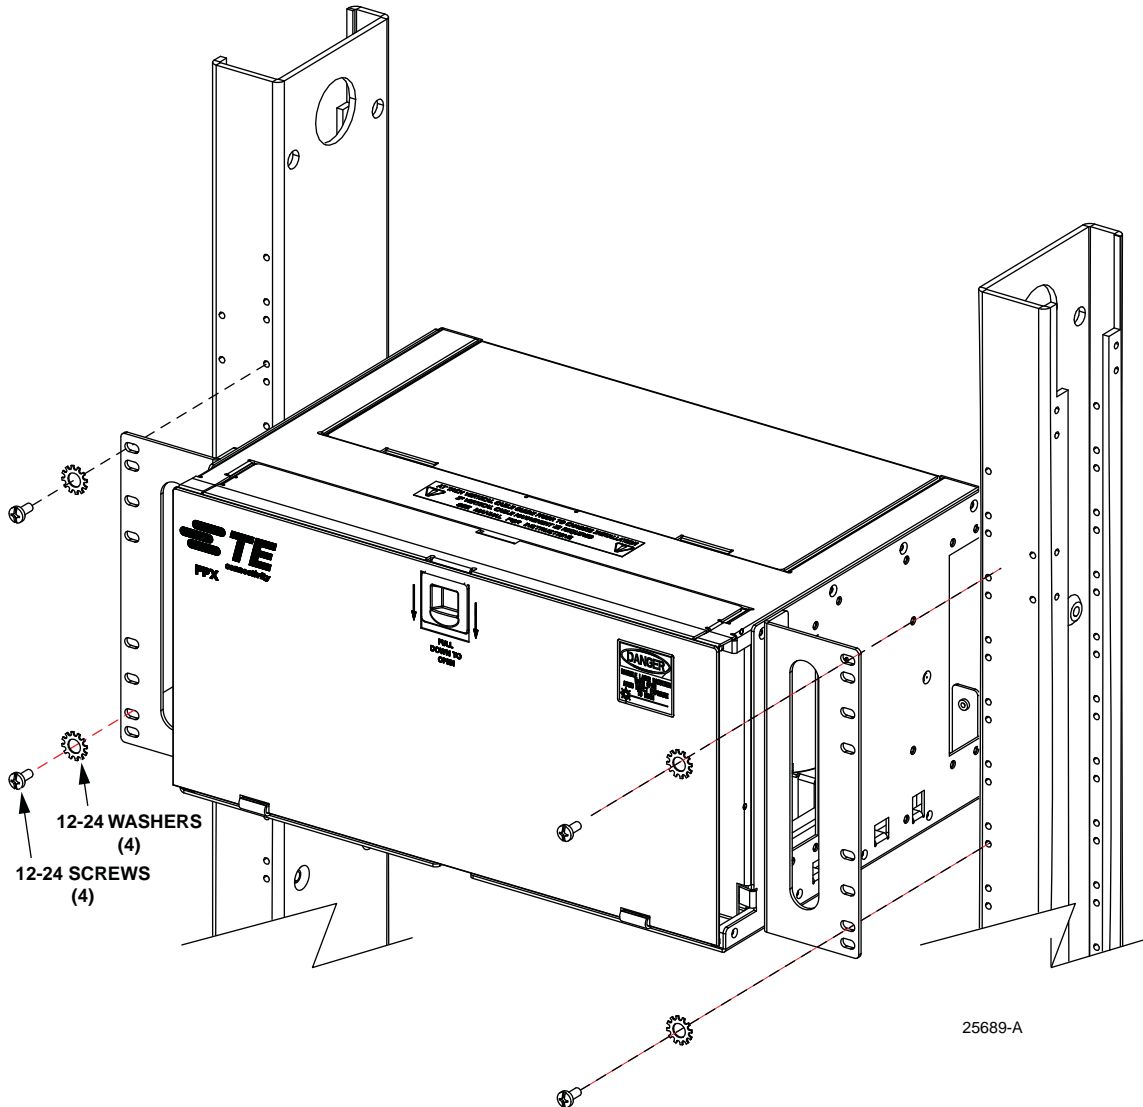

Figure 4. Install Panel into Rack (5RU Panel Shown)
Use 12-24 screws to secure the panel to an equipment rack as shown in Figure 4.
► **Note:** Figure 4 shows a panel installed in a 23-inch rack with a 2-inch recess.